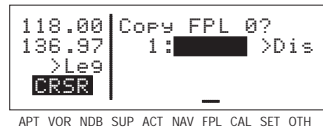

Figure 4-24
- Turn on the cursor (**CRSR**). It will appear over the blank first waypoint position (figure 4-24).